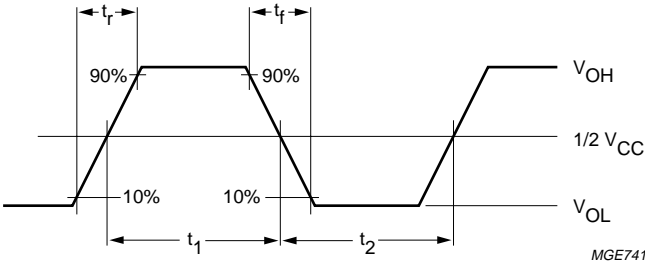

Fig.13 Definition of transition times.
3. The transition time and duty cycle definitions are shown in Fig.13; $\delta = \frac{t_1}{t_1 + t_2}$